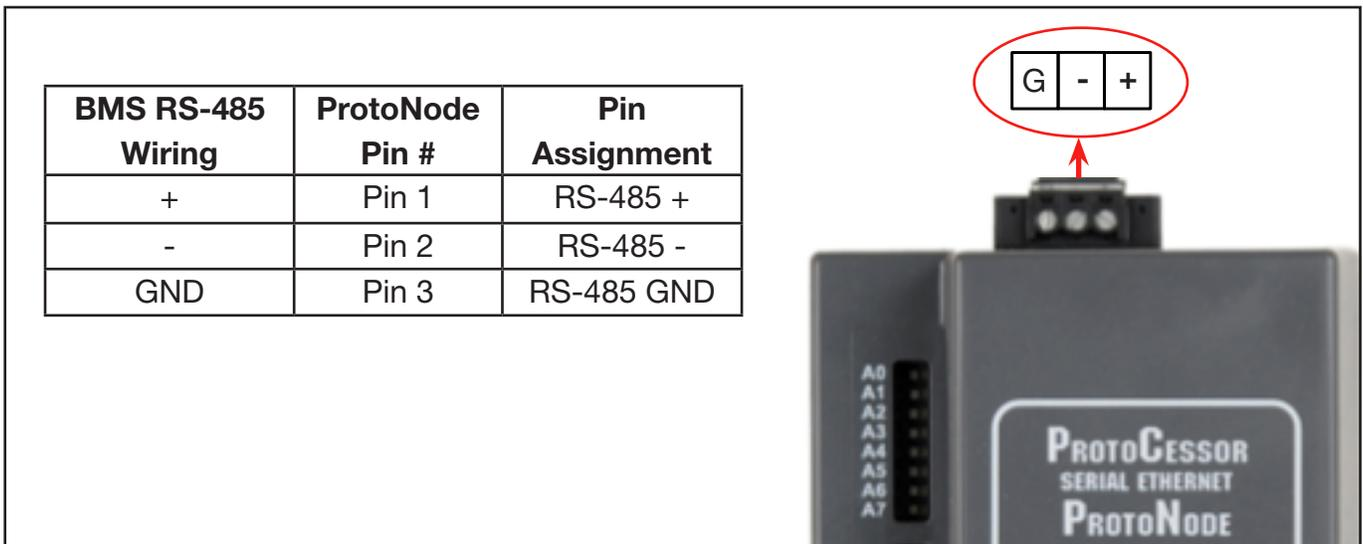

Figure 7: Connection from ET9500 to RS-485 Field Network
- Connect the ET9500 to the RS-485 network wires at the 3-pin RS-485 (Field) connector on the top of ET9500 (see **Figure 7**).